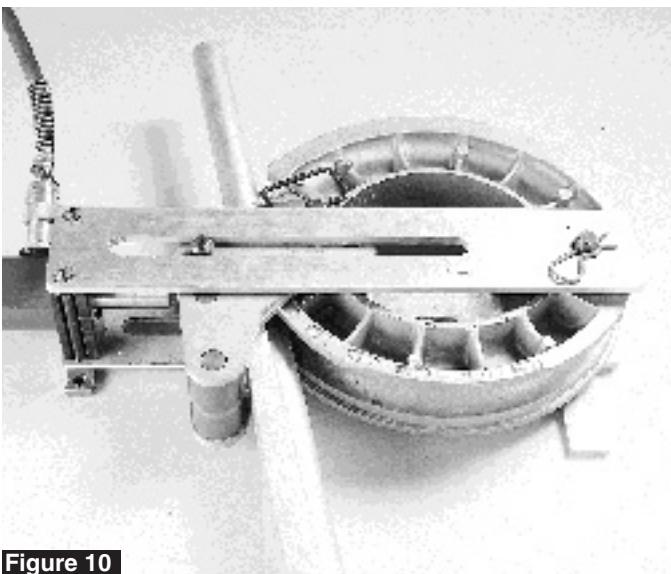

Figure 10
- The U-strap must now be assembled to clamp the pipe to the bending shoe. Hydraulically retract the cylinder plunger until the U-strap hole in the shoe approaches the edge of the aluminum load arm (bender frame). The greatest clearance for easiest assembly exists when the U-strap hole is right next to the load arm edge. Assemble the correct size insert into the U-strap for the size pipe to be bent. (No insert is required for the 2" size.) Assemble the U-strap assembly over the conduit onto the shoe, and insert the U-strap into the aligned holes until it bottoms on the handle. Lay the handle flat against the U-strap and oriented away from the bender frame so that it will not contact the frame while bending (see Figure 10).